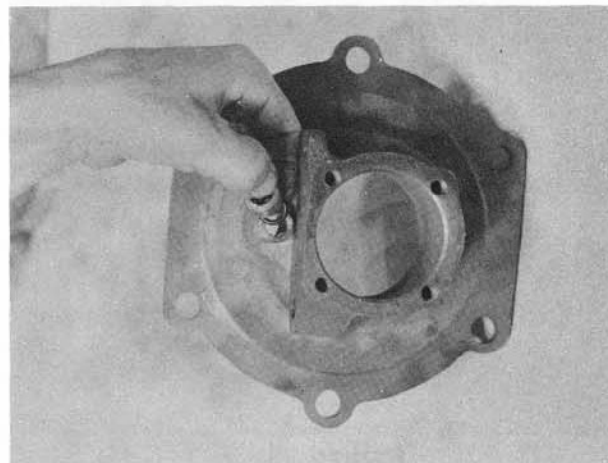

Figure 35
11. Place "O" Ring Retainers in bore as shown in Figure 35. First, place "O" Ring Retainer (6713), in bore and press in to a depth of .572 to .582 from the finished sur-